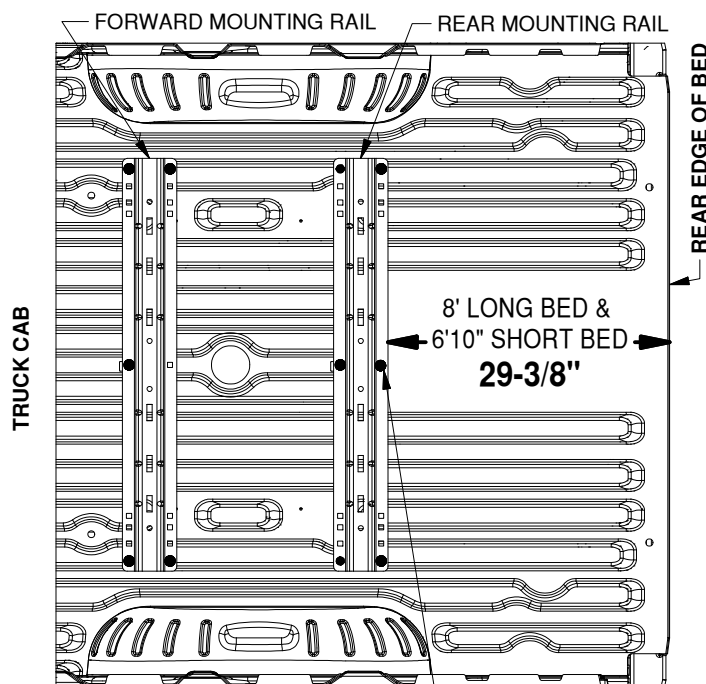

Figure B1: Detail view over bed, showing drill locations for the forward and rear bed rails. DRILL LOCATIONS HIGHLIGHTED BY BLACK DOTS
- 1. Layout the rear mounting rail.** Place a mounting rail onto the bed of the truck. Hook a tape measure over the rear edge of the bed (not on any part of the tailgate), measure the location for the mounting rail as shown in Figure B1. Next, center the mounting rail in the bed by measuring the distance on either side from the edge of the rail to the sides of wheel wells. The rail will be centered when both measurements on either side of the rail are the same.
- 2. Mark hole locations.** While carefully ensuring the mounting rail does not move, use a center punch tool to mark the 6 drill locations on the rear rail. See Figure B1 for hole marking locations for this installation (forward rails will install on a later step). Once all 6 rear rail locations are clearly marked, move the bed rail out of the way and drill each location with an 1/8" drill bit.
- 2. Drill forward mounting holes.** Using the same methods as used for the rear mounting rail mark, drill, check, and enlarge the holes for the forward mounting rail. Refer to "DRILL REAR MOUNTING HOLES" section, steps 2 through 4, on a previous page. Notice that the hole locations are slightly different than the rear rail, see Figure B1 (on the second page).